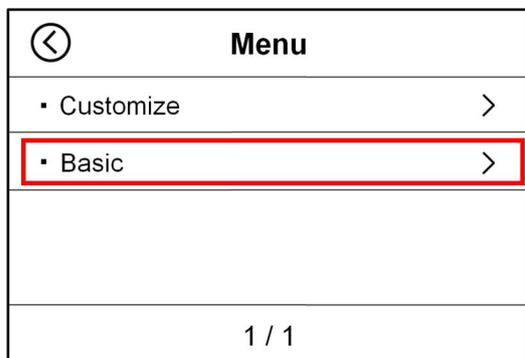
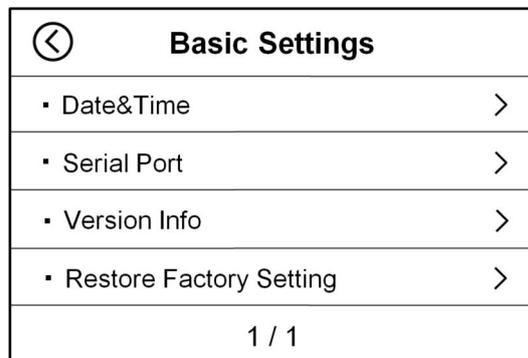

Figure 39
Figure 60
1) Press the “” key to enter the main interface of USER MENU, as shown in Figure 39 below, Press **“Basic”** to enter into Basic Settings, as Figure 60.